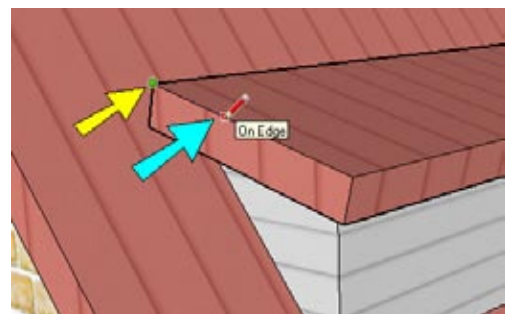

Figure 5-31
9. One way to fill the gap between the dormer roof and the main roof is to add lines. Start a line at the back corner (shown by the yellow arrow in Figure 5-31) and hover over the top side edge (blue arrow).